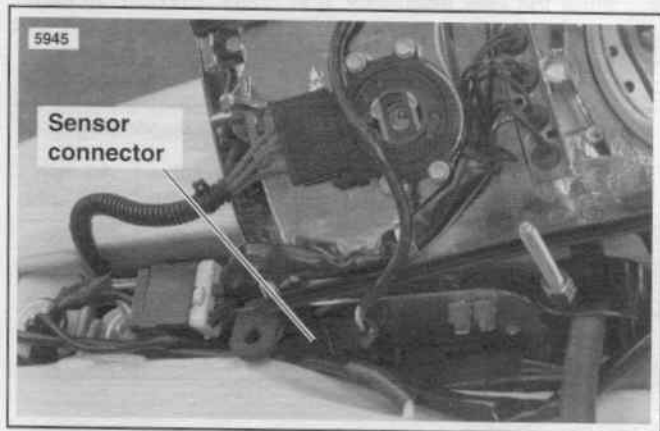

Figure 8-51. Speedometer Sensor Connector
5. See Figure 8-51. The 3-place speedometer sensor connector [65] is located on a bracket behind the right side fuel tank. Remove connector from t-stud and disconnect.